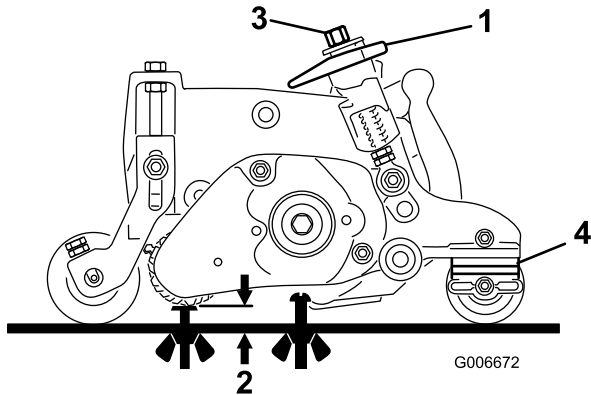

Figure 26
1. Make sure that the groomer is set to the desired height of groom (HOG); refer to Figure 26.